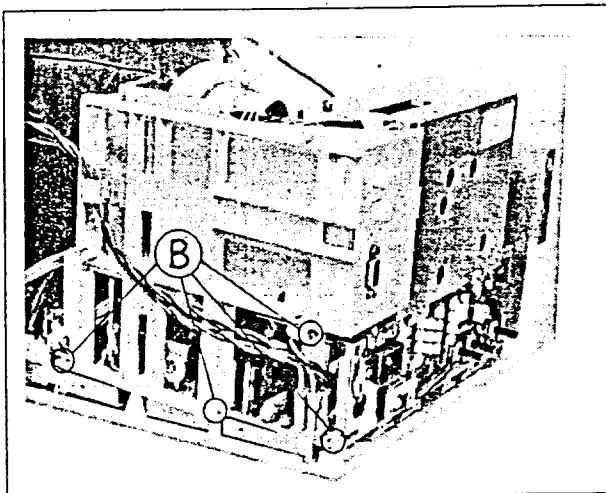

FIG. 2
1. Remove the thirteen screws marked (B) shown in Fig. 2, 3 and 4.